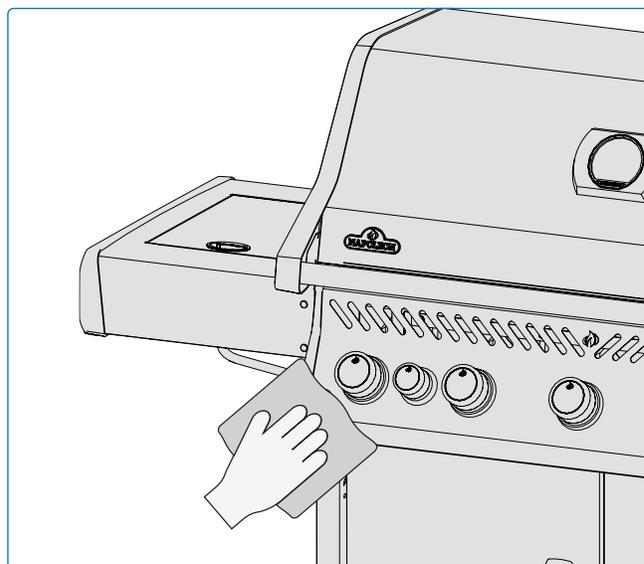

Fig. 25
- Stainless steel parts will discolor over time from heat, developing a golden or brown hue. This is normal and does not affect grill performance (**Fig 25**).